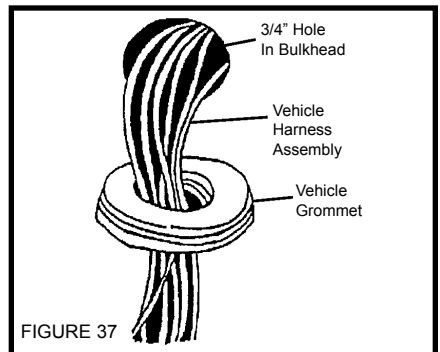

FIGURE 37
3. **HARNESS ASSEMBLY** needs a **3/4"** hole to pass through bulkhead. You may find one nearby, such as the speedometer cable hole or a small one you can file larger. If you find the right size hole in the right place, remove grommet. If not, drill, saw, or punch a **3/4"** hole in bulkhead. A hole a couple of inches to the left or slightly higher than the steering column is usually a good place. **Figure 37**